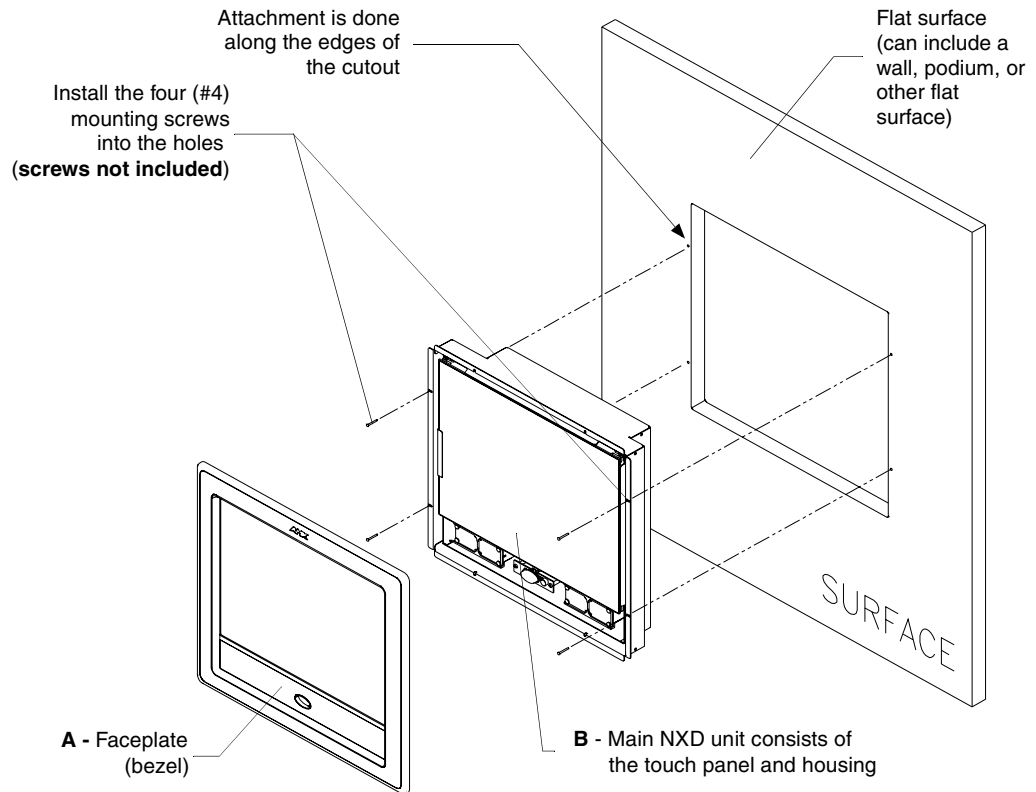

FIG. 41 Wall Mount panel installation configuration for flat/solid surfaces
3. Remove the magnetic faceplate/bezel (A in FIG. 41) from the main NXD unit (B in FIG. 41) by gripping the faceplate and pulling with gentle outward force.
10. Place the magnetic faceplate (A in FIG. 41) back onto the main NXD unit (B in FIG. 41). *Make sure to align the Microphone, Light, and PIR Motion sensor locations to their respective openings on the front bezel/faceplate.*